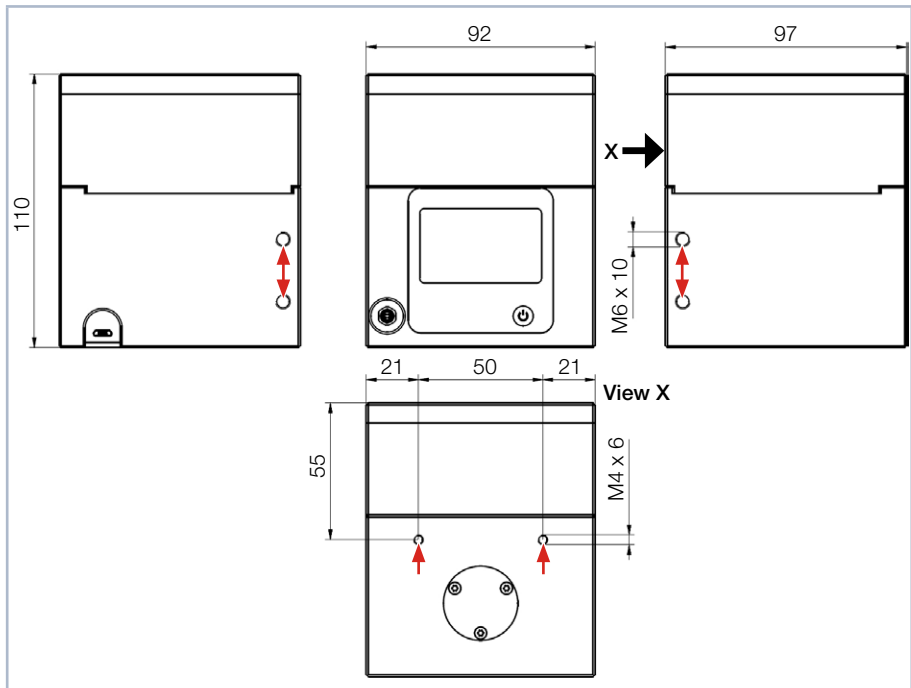

Fig. 8.3: Mounting threads in the housing
2. Install the device with the mounting threads as shown in Fig. 8.3 on page 18.
3. Unscrew the mounting screws from the mounting threads (see Fig. 8.3 on page 18).